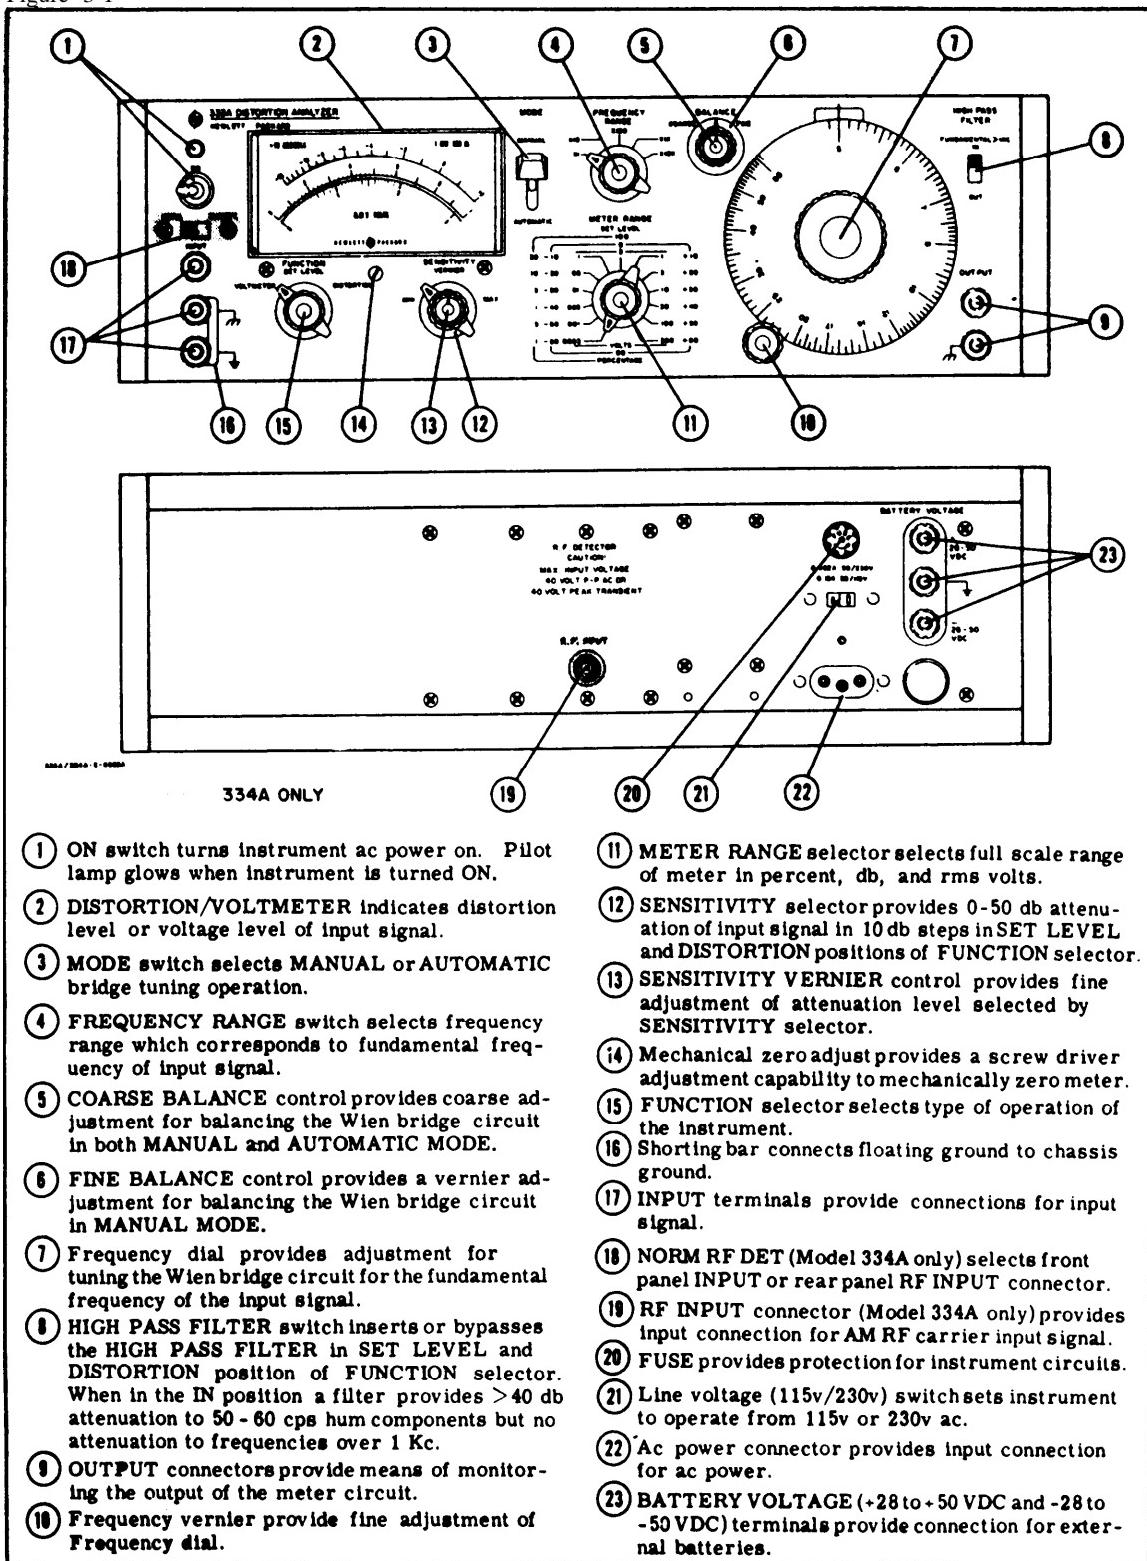

Figure 3-1. Front and Rear Panel Description
3-5. Figure 3-1 illustrates and describes the function of all front and rear panel controls, connectors, and indicators. The description of each component is keyed to a drawing included within the figure.
3-10. Signal source can be connected to the 333A and 334A through twisted pair leads or a shielded cable with banana plug connectors. Keep all test leads as short as possible to avoid extraneous pickup from stray ac fields. When measuring low-level signals, battery operation is recommended to avoid ground loops. Another method for avoiding ground loops is by connecting only one instrument in a test setup directly to power line ground through a NEMA (three-prong) connector. Connect all other instruments to the power source through a three-prong to two-prong adapter and leave the pigtail disconnected. Both the 333A and 334A have a dc isolation of ± 400 vdc from the external chassis with the shorting bar, (item 16, Figure 3-1), disconnected.